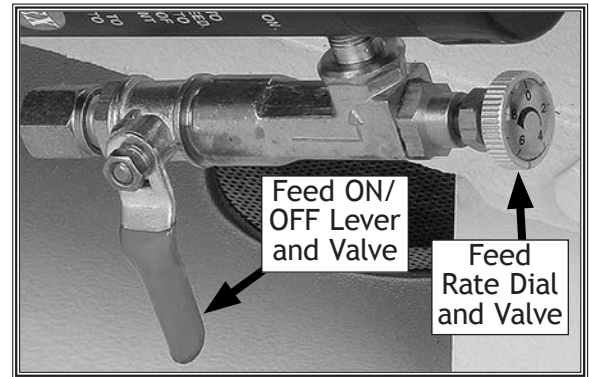

Figure 41. Feed rate controls.
4. Close the feed ON/OFF valve to lock the headstock and blade a few inches above the workpiece (see **Figure 41**).